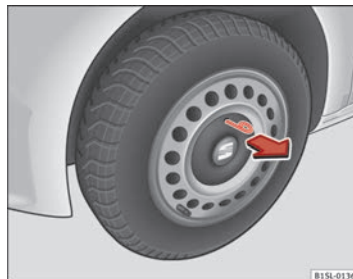

Fig. 138 Remove the hubcap of the steel wheel trim
- To remove, take the vehicle tool kit wire hook and attach it to the edge of the wheel trim ⇒ Fig. 138.